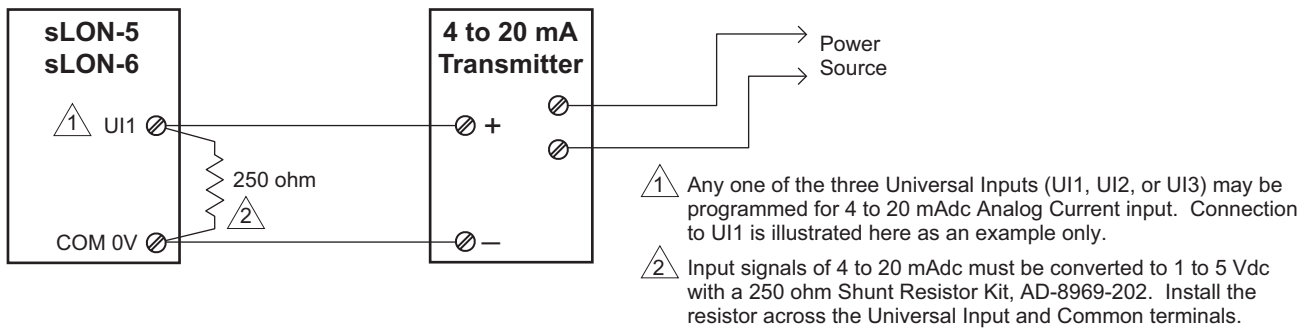

Figure-12 Typical Wiring for 4 to 20 mA Analog Current Input.
7. Analog Current (refer to Figure-12).
Any of the sLON-5 or sLON-6 controller's UI inputs can be configured for the 4 to 20 mAdc Analog Current Transmitter input. Make the connections according to the diagram in Figure-12.